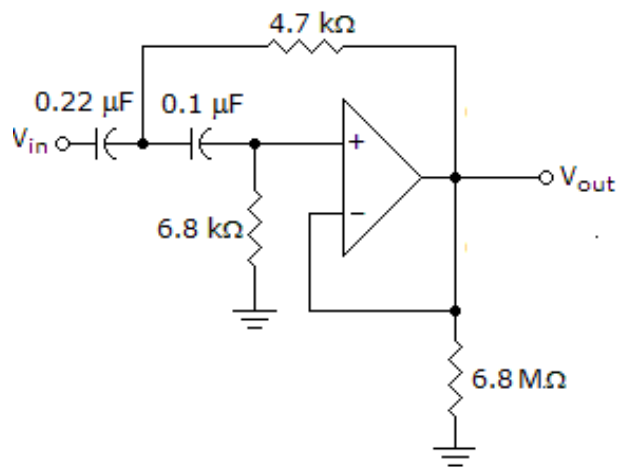

Fig. Q 2C
- 2A.** Mention any four main functions of signal conditioning circuit. Design an active signal conditioning circuit using OPAMP to be interfaced with AD590 IC temperature transducer so as to produce 0V at 0°C and 10V at 100°C . The rate of conversion of AD590 is $1\mu A/^\circ\text{K}$. (03)
- 2B.** With a neat diagram, explain the principle of magnetic isolation using active devices. Highlight the role played by phase sensitive modulators as well as phase sensitive demodulators in this signal isolation technique. (03)
- 2C.** An active filter is employed as shown in **Fig. Q 2C**. With detailed steps, derive its mathematical model. From the analysis, comment on the type of the filter architecture (band pass/band reject/low pass/high pass) employed. Also determine the cutoff frequency and comment whether the filter architecture is suitable for employment in a signal conditioning unit that processes transduced signals of a structure undergoing seismic excitations. (Excitation frequency range of 0.01-40 Hz). (04)